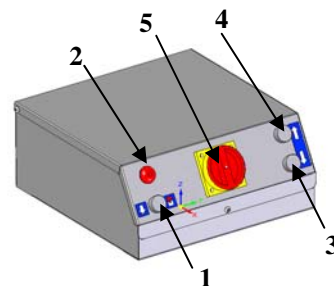

Fig.16
6. BEDIENING EN GEBRUIK (Fig.16)